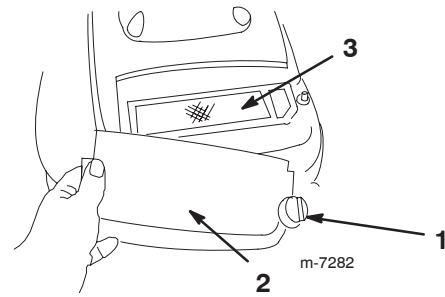

Figure 24
3. Remove the screw that secures the air cleaner cover (Fig. 24).
4. Remove the cover and clean it thoroughly (Fig. 24).